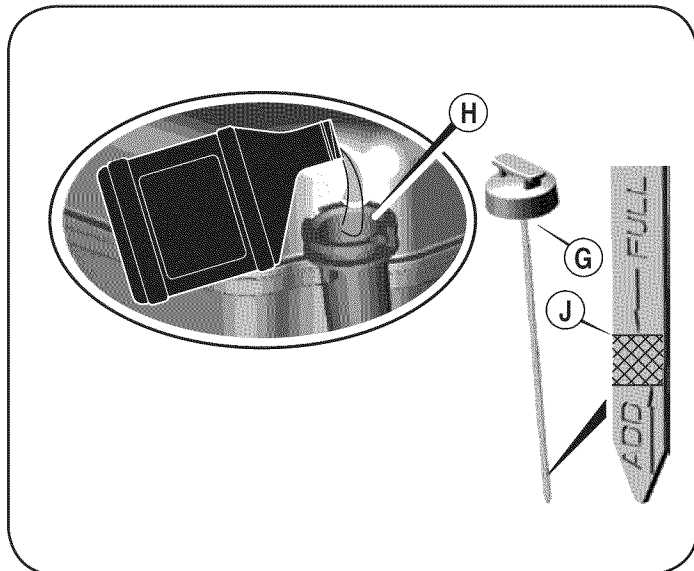

Figure 5
1. Remove oil fill dipstick (G). See Figure 5.
2. With the mower on level ground, empty entire contents of oil bottle provided into the engine oil fill (H).
3. Insert and tighten the oil fill dipstick. Remove it to check the oil level. See Figure 5.
4. If the oil level is near or below the lower limit mark on the dipstick, remove the oil fill dipstick, and fill with the recommended oil to the upper limit mark (J). Do not overfill.